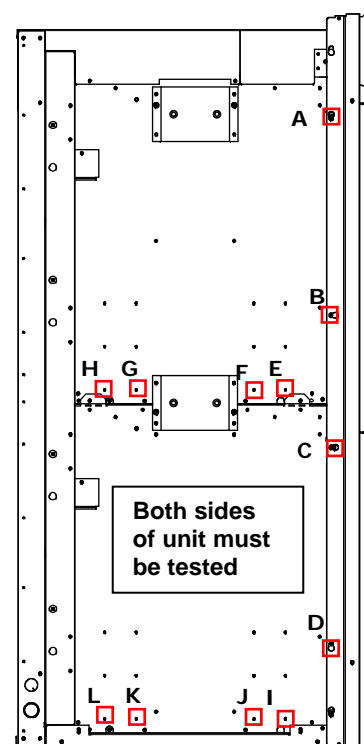

Figure 1
4. Remove side trim (screws A-D) and remaining screws (E-L) identified in Figure 1 by the red boxes; these are the insulation test locations. (Okay to proceed if screws are not present in all locations.)